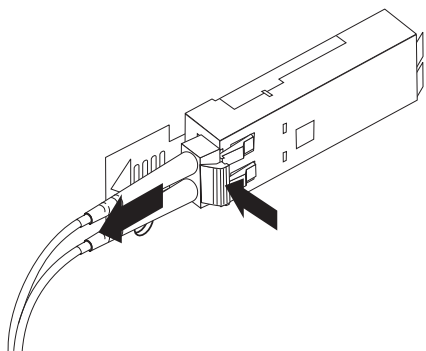

Figure 34. Removing the LC-LC Fibre Channel cable
2. Carefully pull on the connector to remove the cable from the SFP module, as shown in Figure 34.